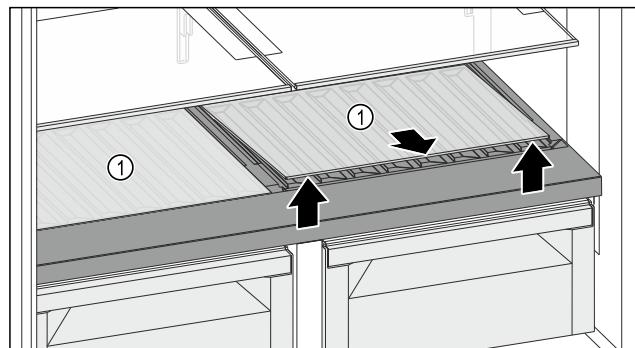

Fig. 131
- ▶ Lift one or both glass shelves Fig. 131 (1) at the front and remove.
- ▶ Store the glass shelf(shelves) Fig. 131 (1) in a secure place outside the appliance.